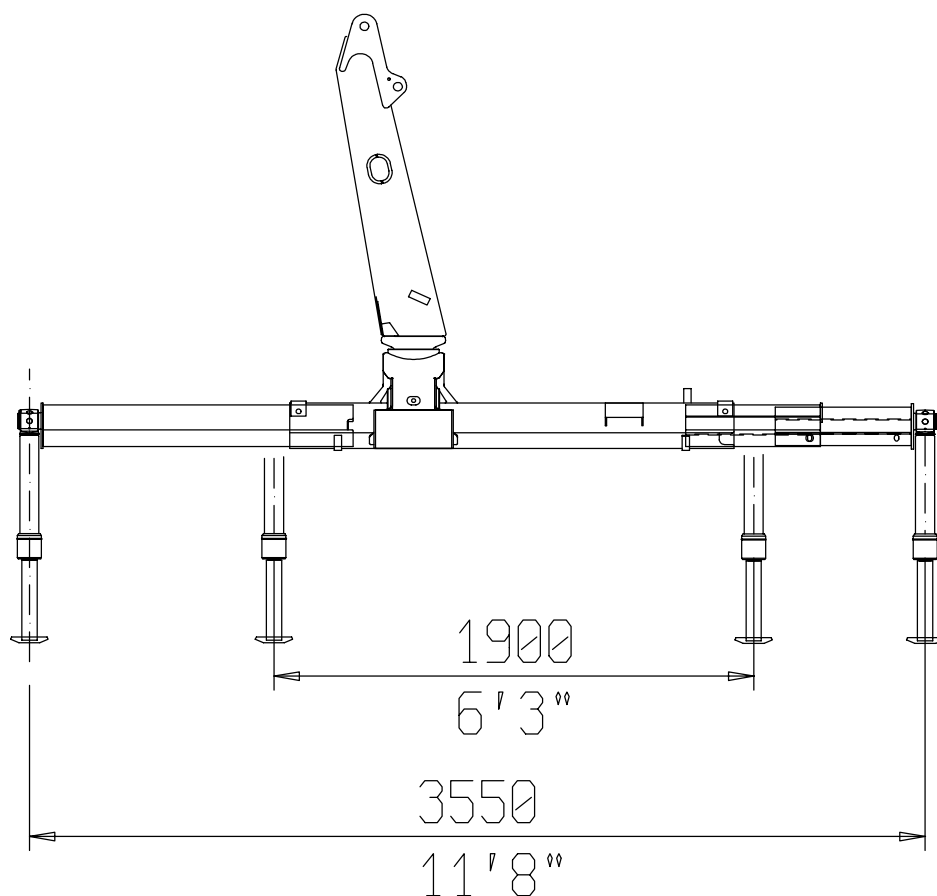

Fig.5-1
5.2 BRACCI STABILIZZATORI EXTRALLARGABILI PER SERIE 4 (Fig. 5.1)
5.2 OUTRIGGERS BOOMS IN EXTRA LARGE VERSION FOR SERIE 4 (Fig. 5.1)